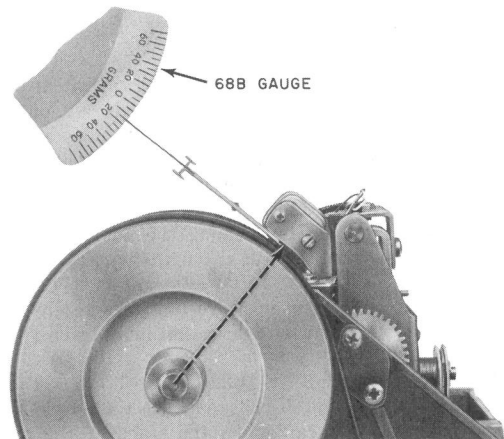

Fig. 14—Magnetic Head Pressure
**3.28 Magnetic Head Pressure (Fig. 14):** With the magnetic head in the electrically operated position, the pressure of the magnetic head on the recording band shall be a minimum of 28 grams, a maximum of 43 grams. Use No. 68B gauge to measure this quantity by placing tip of gauge under recording head bracket between the two mounting screws and measuring the pressure on a line passing through the drum center and between the two screws. The end of the head pressure spring shall be placed in the hole which provides the maximum pressure within the permissible range.